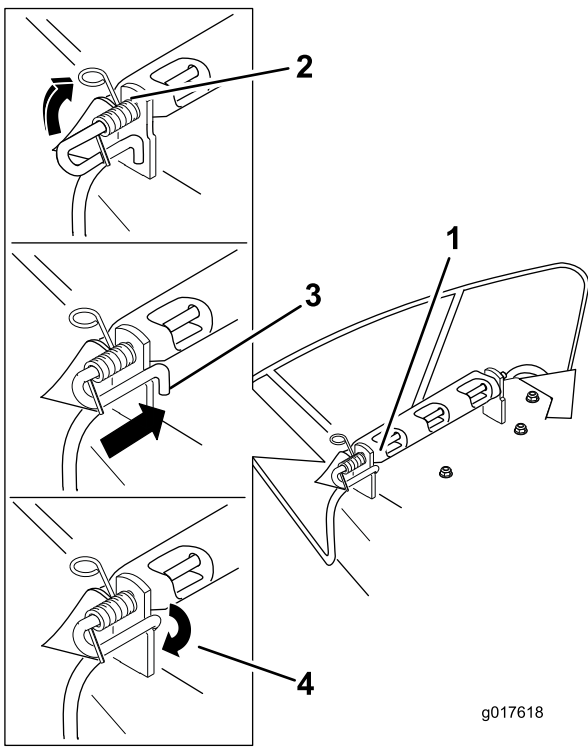

Figure 76
3. Position the new discharge deflector with the bracket ends between the welded brackets on the deck as shown in Figure 76.
6. Lift the loop end of the spring and place it into the notch on the deflector bracket (Figure 76).
7. Secure the rod and spring assembly by twisting it so the short end of the rod is placed behind the front bracket welded to the deck (Figure 76).